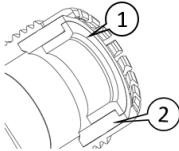

Fig. 9: Choose the proper seal
- 1 Choose the proper seal accessory. The part seal recommended outer diameter of the cable (fig. 9 / pos. 1) is 20 – 24 mm.
The part seal recommended outer diameter of the cable (fig. 9 / pos. 2) is 24.5–30 mm.